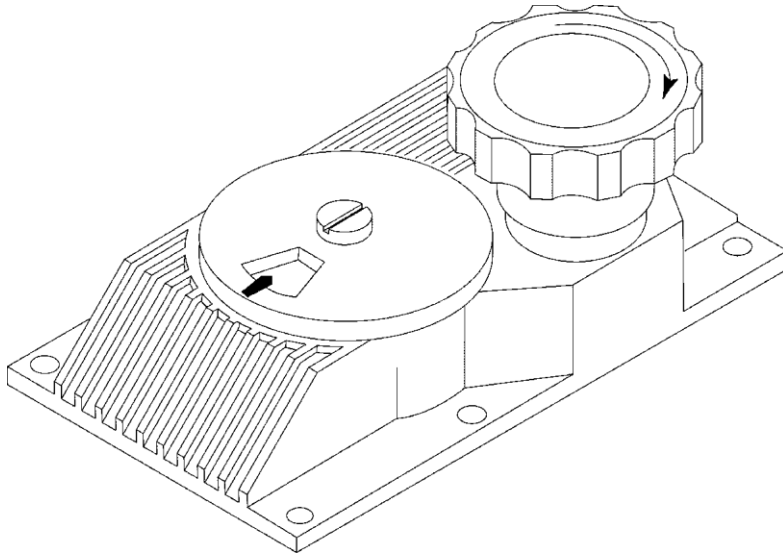

Figure 32 – Manual Cover Assembly
3. Remove the six Phillips Head screws that hold the Manual Cover Assembly to the Eccentric Box (refer to **Figure 32**).